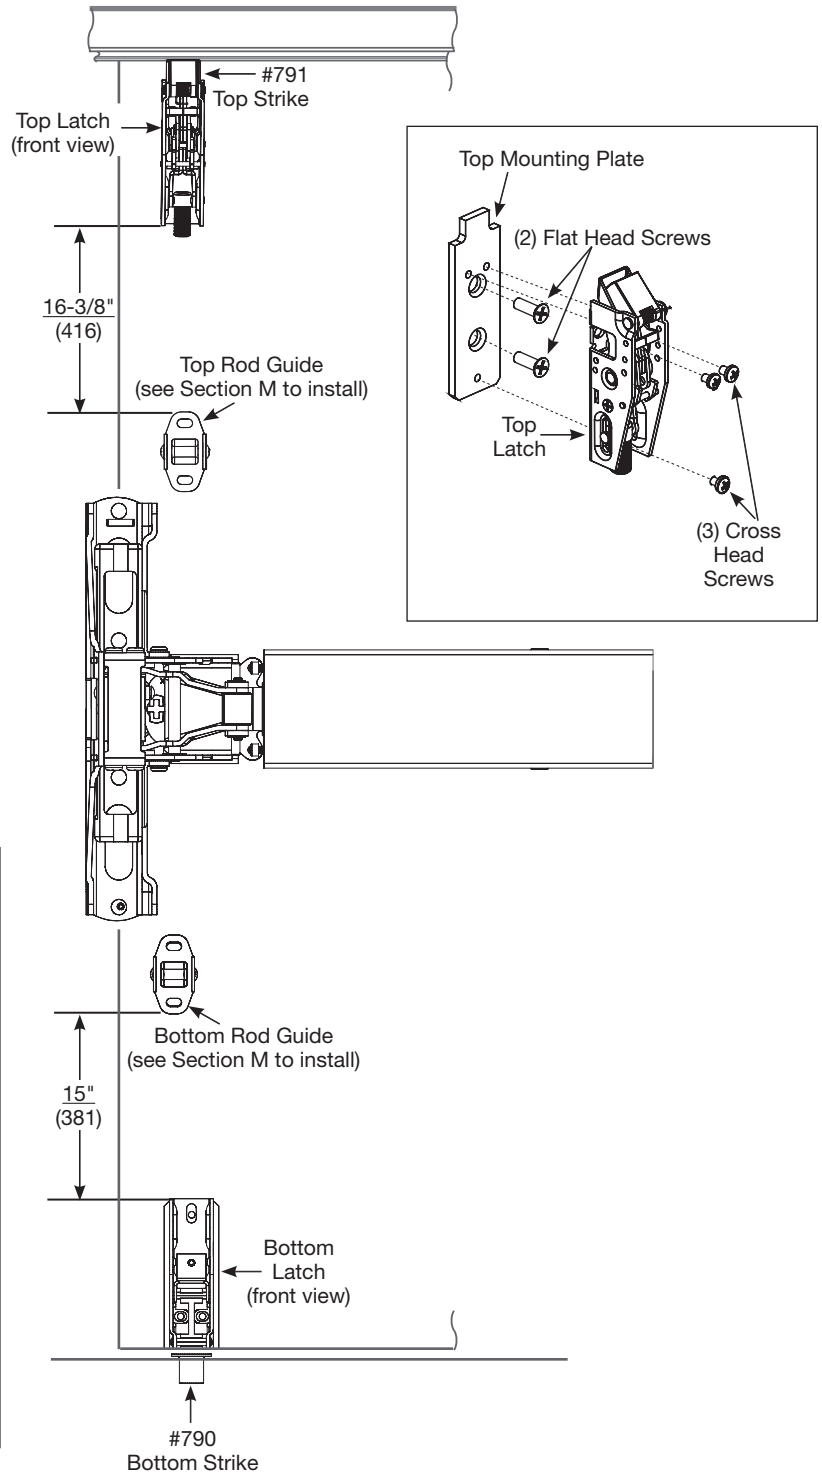

Figure 10: Install Top & Bottom Latches
Install Top Latch (Figure 10)
Install Bottom Latch (Figure 10)
- Insert top rod connector into top rod and insert rod pin to secure. Pin should be flush on both sides. Insert rod into device assembly (see Figure 10-B).